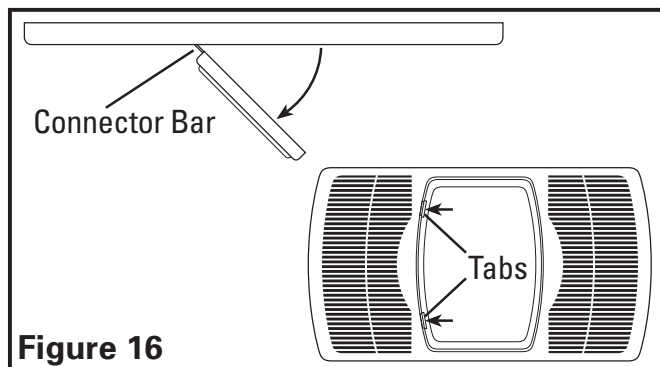

Figure 16
3. **Changing the Light Bulb:** Disconnect power to the unit. Open light lens by pushing in on the two tabs of light lens and pulling outward from lens. The lens will swing open on the connector bars. DO NOT remove the lens from the grill (**Figure 16**).